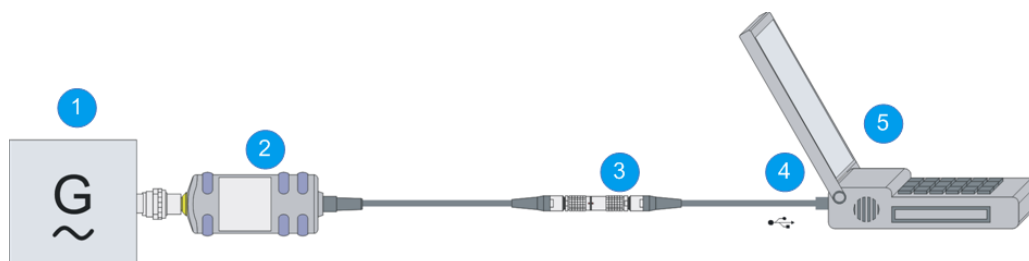

Figure 5-1: Setup with a passive USB adapter
1. Connect the cables as shown in Figure 5-1: